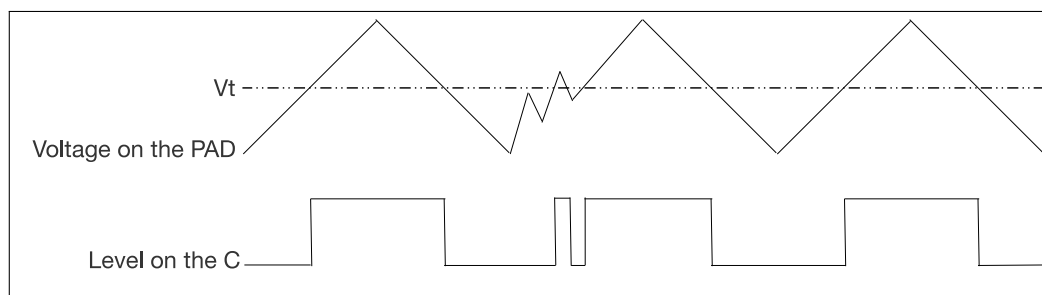

Figure 6.10-1. Example of Level Flip on the Chip Pad — Hysteresis Function Not Enabled
Each GPIO pin has hysteresis functionality. When hysteresis is not enabled, as shown in Figure 6.10-1, the level flip of the signal (C) input to the chip from the PAD has only one threshold (V_t , about 1.7 V). When the voltage on the PAD is higher than V_t , the level on the C is high. Otherwise, it is low. However, noise on the PAD may affect the signal on C.